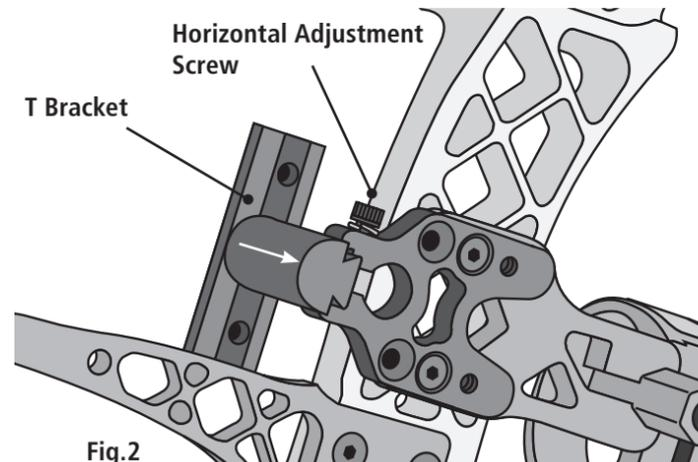

Fig.2
2) Insert the "T" shaped bracket into the Y Plate with the round edge facing the bow string and the notched side sliding through the notched jaw of the Y Plate. Slightly tighten the Horizontal Adjustment Screw on the Y Plate to keep the T Bracket in place until the final adjustments have been made. (Fig. 2)